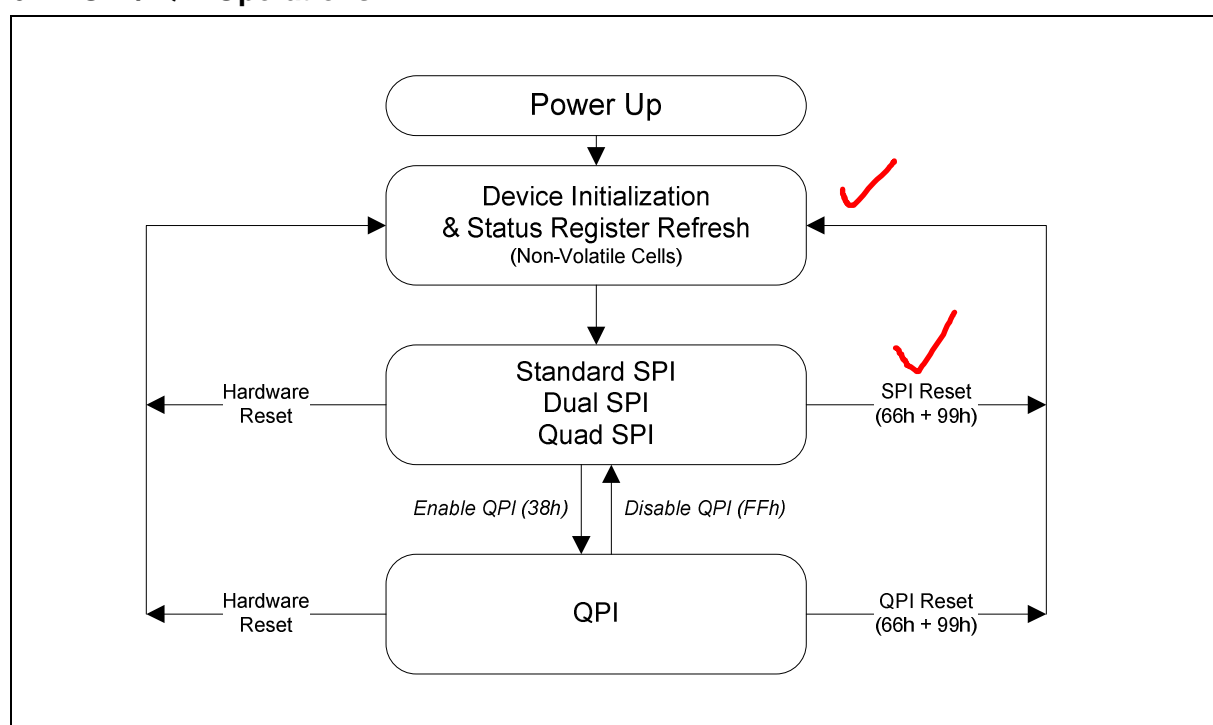

Figure 3. W25Q32FV Serial Flash Memory Operation Diagram
The W25Q32FV supports Quad Peripheral Interface (QPI) operations only when the device is switched from Standard/Dual/Quad SPI mode to QPI mode using the “Enter QPI (38h)” instruction. The typical SPI protocol requires that the byte-long instruction code being shifted into the device only via DI pin in eight serial clocks. The QPI mode utilizes all four IO pins to input the instruction code, thus only two serial clocks are required. This can significantly reduce the SPI instruction overhead and improve system performance in an XIP environment. Standard/Dual/Quad SPI mode and QPI mode are exclusive. Only one mode can be active at any given time. “Enter QPI (38h)” and “Exit QPI (FFh)” instructions are used to switch between these two modes. Upon power-up or after a software reset using “Reset (99h)” instruction, the default state of the device is Standard/Dual/Quad SPI mode. To enable QPI mode, the non-volatile Quad Enable bit (QE) in Status Register-2 is required to be set. When using QPI instructions, the DI and DO pins become bidirectional IO0 and IO1, and the /WP and /HOLD pins become IO2 and IO3 respectively. See Figure 3 for the device operation modes.